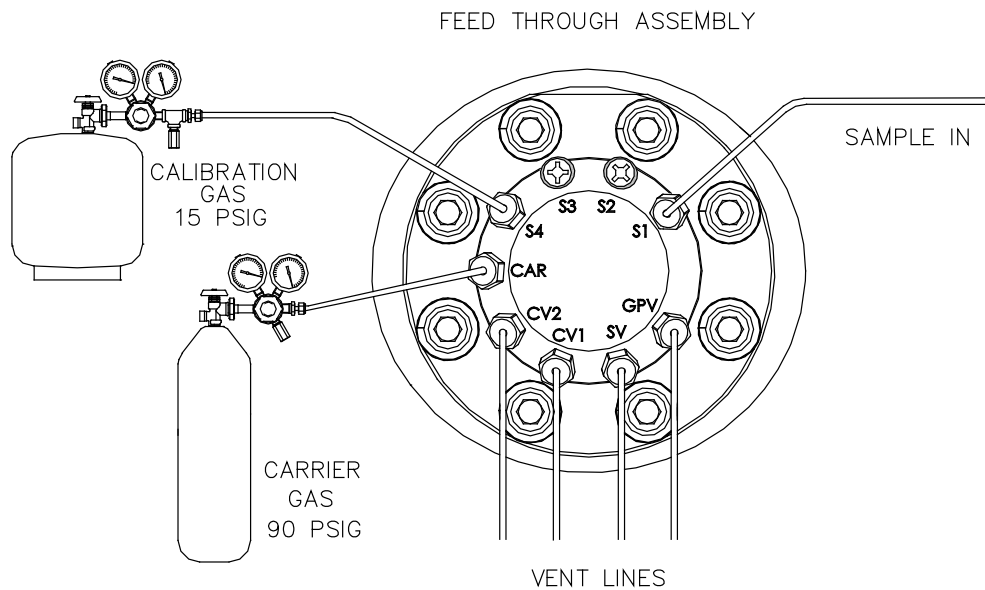

Figure 3-46 Vent Line Connections on Feed-through Assembly
- 1) Locate the gauge port vent (GPV), sample vent (SV), column vent 1 (CV1) and column vent 2 (CV2) ports on the NGC feed-through assembly (see Figure 3-46). Remove the sealing screws for the vent ports.